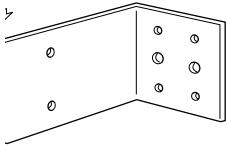

Fig.3. Selecting bracket length.
- b) Mounting brackets are supplied with all OPUS fans but, depending on the type of unit, may need to be shortened. The bracket has a series of notches, one of which is suitable for your unit. Offer up the bracket to the unit (small leg of bracket to back of unit) and note the notches which correspond with the back of the skirt. Using a hacksaw cut the bracket to length. Similarly prepare the two remaining brackets. (Fig.3).